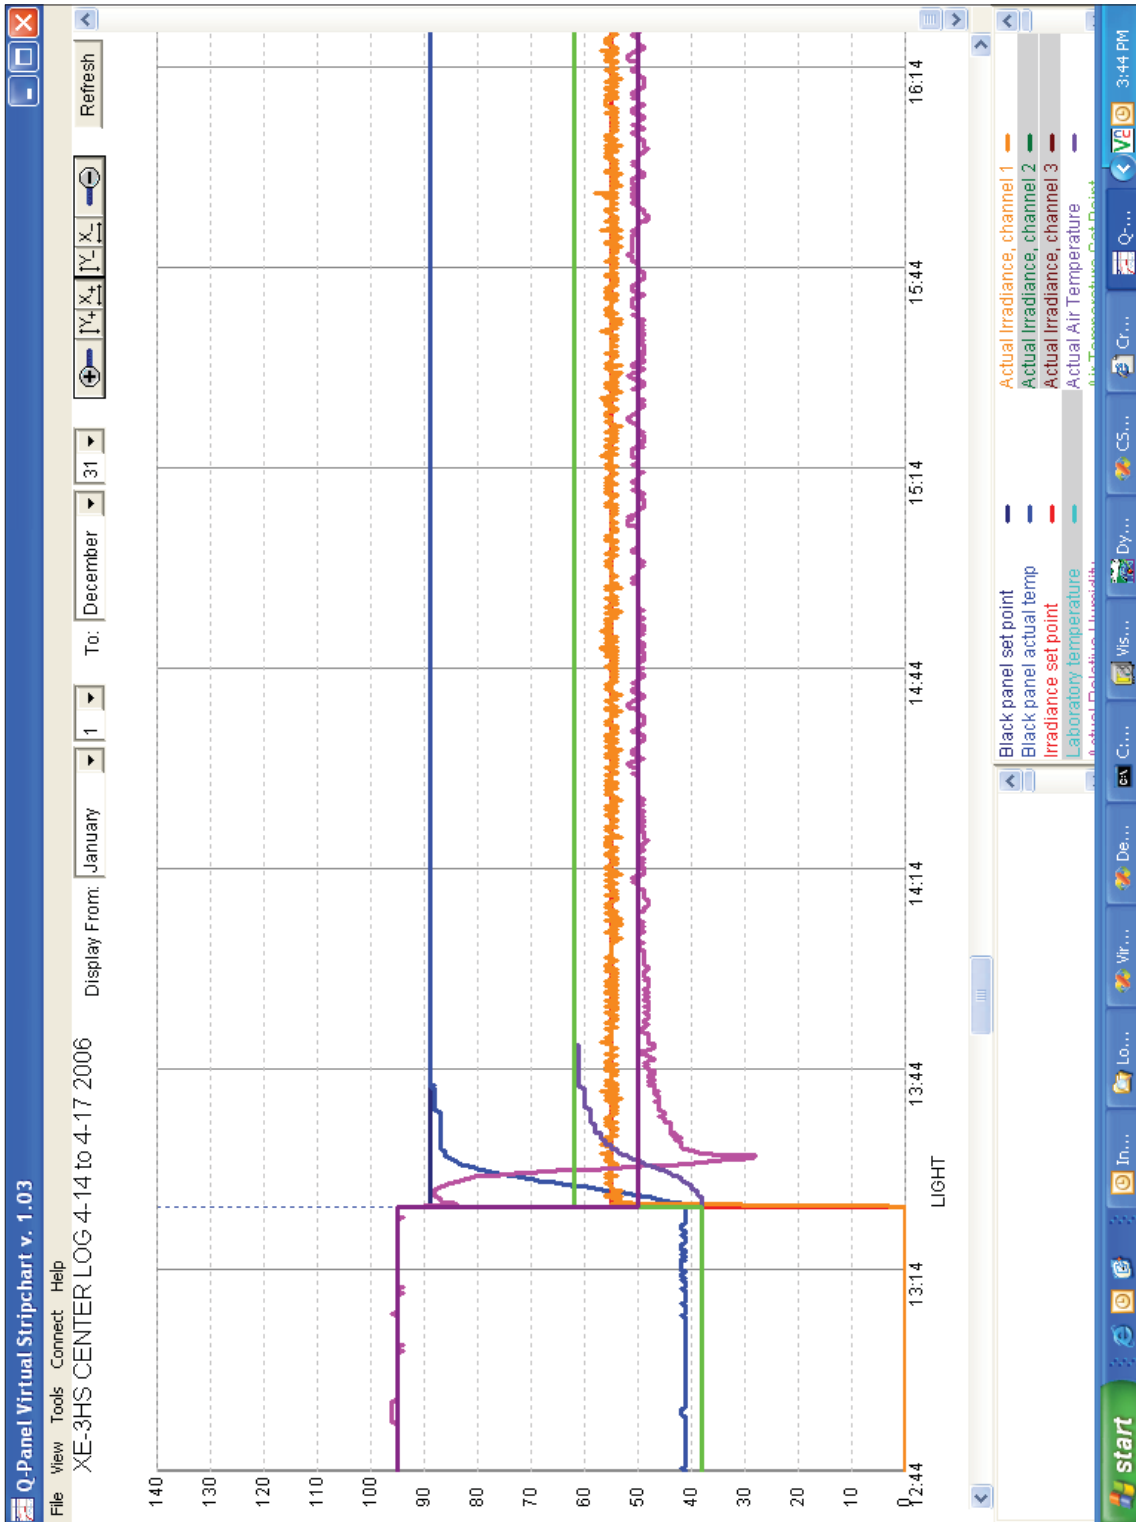

Figure 13.3h: Example stripchart view of Q-SUN operational data.
- The exported files (Figure 13.3g) can be uploaded to the Q-Portal Asset Center where customers can view basic operational data (Figure 13.3h and Figure 13.3i) and Q-Lab personnel can view extended operational data.